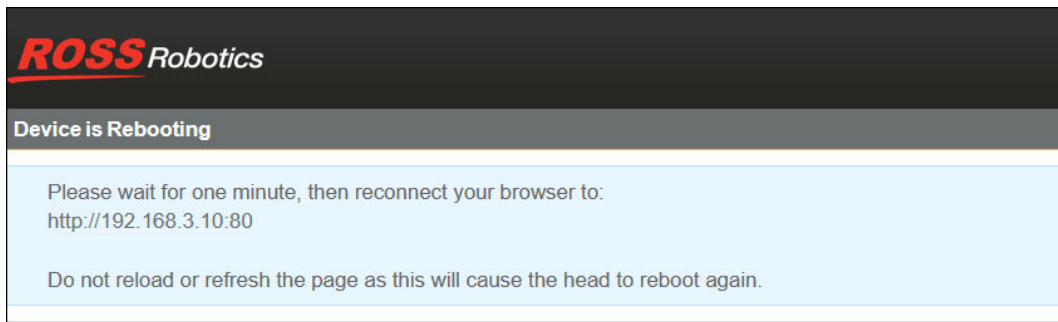

Figure 20 - Device is Rebooting Message
3. If you modified any settings and want to apply them to the head, click the **Save and Reboot** button. The **Device is Rebooting** message appears (**Figure 20**).